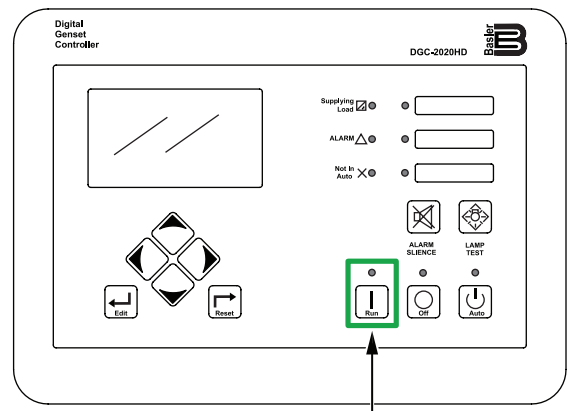

Figure 43. Digital Controller (Run Button)
1. To start the engine, press the **Run button** (Figure 43) on the digital controller.